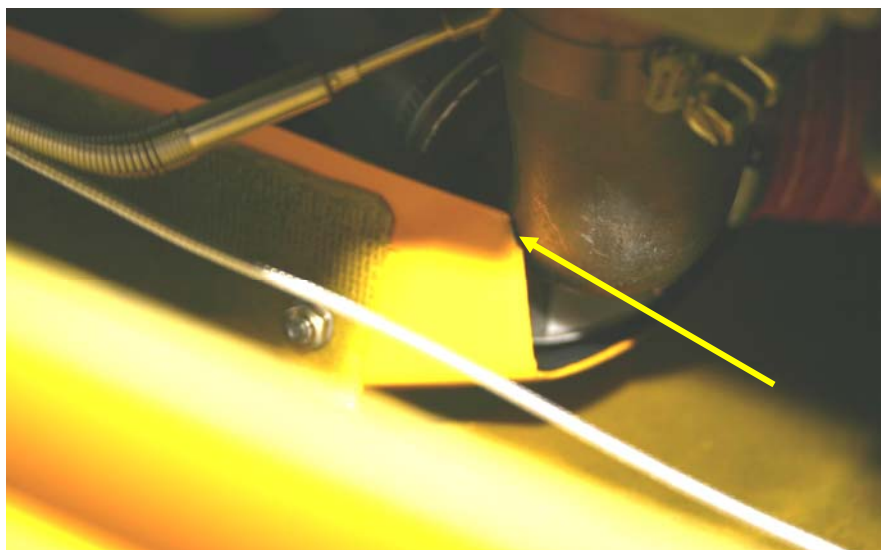

FIGURE 7 - Cowl Flap Clearance
16. Visually inspect the cowl doors in all three positions making sure they do not contact the engine or its components. Refer to Figure 7.